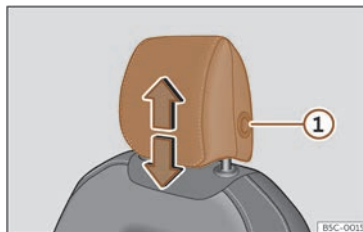
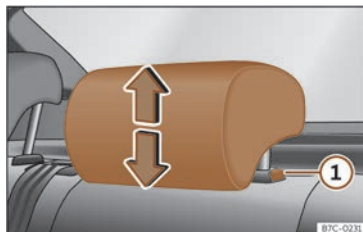

Fig. 91 Front seat: adjusting the head restraint.
Fig. 92 Rear headrest: adjusting the headrest.
- Grab the sides of the head restraints with both hands and push upwards to the desired position. To lower it, repeat the same action, pressing the button on the side ① >>> Fig. 91, >>> Fig. 92.